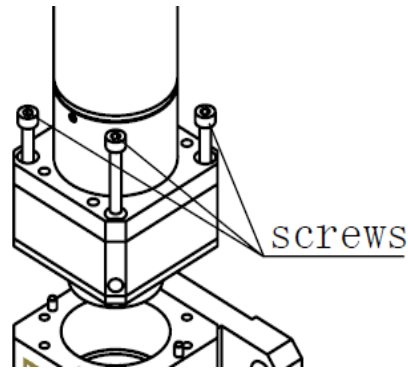

Figure 4. Fiber Orientation
- (1) The red dot on QBH connector should be in alignment with that on the hand wheel. Connect the fiber with the QBH connector. Make sure the red dot on the connector is in alignment with these two spots.
- (2) Rotate the hand wheel clockwise. When you hear 'da', pull the wheel and rotate towards the right again to the correct orientation.
- (3) When the fiber is connected to the head, the red dot on the fiber may be far away from the red dot on the head, which prevent the fiber being input straight. To reoriented the connector, you may do as follows. See Figure 4. Loosen the 4 clamping bolts in Figure 4 with a wrench. Rotate the QBH connector. Once the fiber connector is oriented correctly tighten the clamping bolts and the set screw.